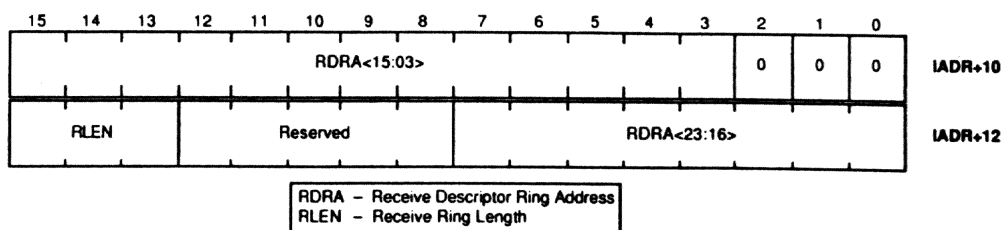

Figure 5-8: Format of the Receive Data Ring Pointer
5.2.3.4 Receive Data Ring Pointer - This field contains the information on the ring of buffer descriptors for receive operations. Figure 5-8 shows the format of this field, and Table 5-4 explains the content of each field.